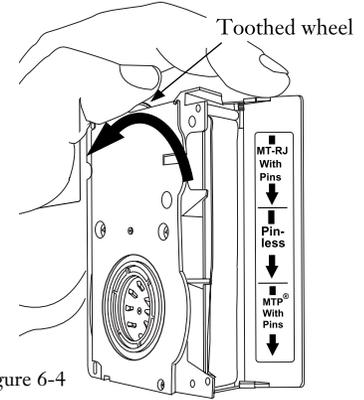

Figure 6-4
**6.2-5** Turn the toothed-wheel one stroke to access a fresh area of the cleaning strip (Figure 6-4).